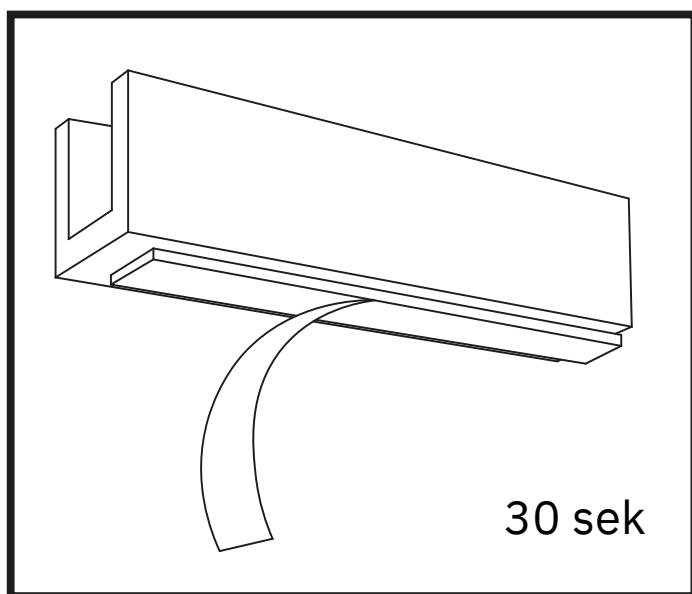

Figure 5
10. Remove the cover film from the double-sided tape on the U-channel and place the channel on the edge of the bathtub in the marked position. Press the channel firmly, holding the pressure for about 30 seconds. (Fig 5)